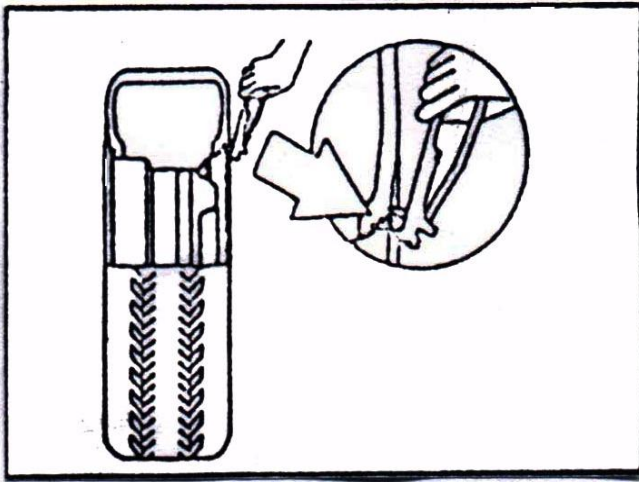

FIG17
4.1.1 Deflate the air in the tire completely. Use the special tool to detach the weight on the rim and pull out the core (FIG17).